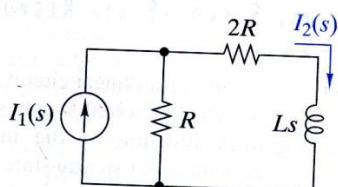

FIGURE P11-8
- 11-8 Find the current transfer function $T_I(s) = I_2(s)/I_1(s)$ in Figure P11-8. Select values of R and L so that $T_I(s)$ has a pole at $s = -500$ rad/s.